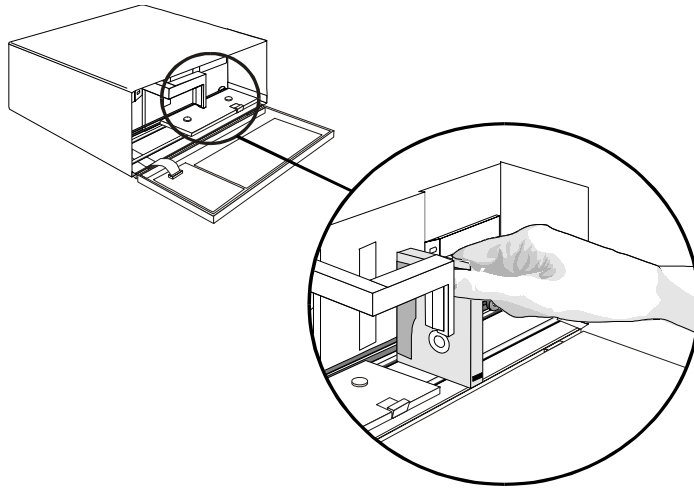

Figure 16. Inserting the Cleaning Cassette into the Drive.
- ❑ Insert cleaning cassette into the drive opening (see Figure 16). The drive will load the cassette and automatically begin the cleaning process. The cleaning cycle may take from 2 to 3 minutes.